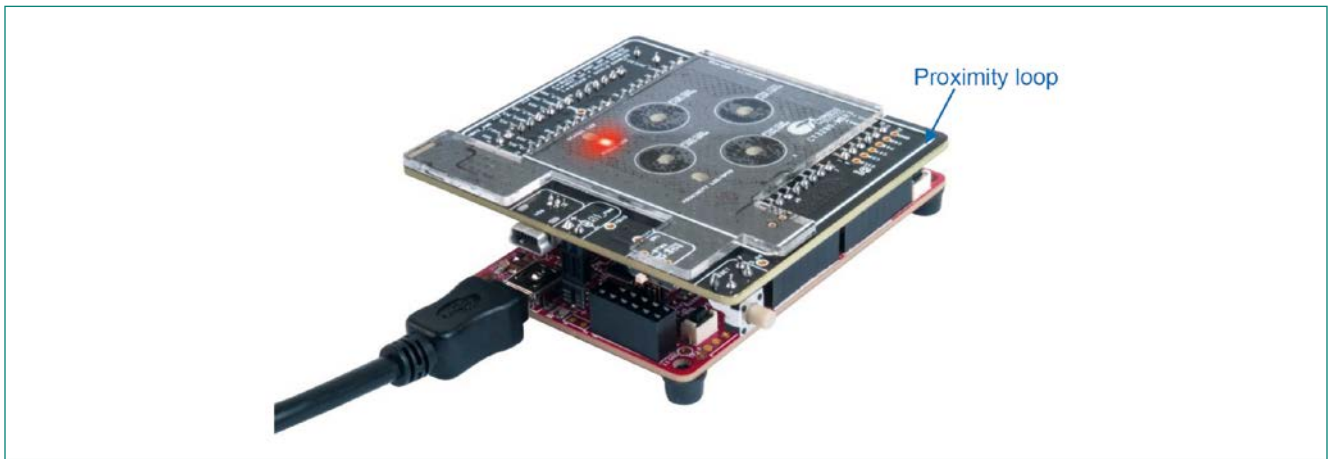

Figure 5-19 MBR3 Kit Mounted on Top of PSoC4 Pioneer Kit
5. Connect the PSoC4 Pioneer Kit to the PC via the USB A to mini-B cable, available as part of the MBR3 Evaluation Kit. The power LED (red) of the MBR3 kit glows. The final connection is shown in Figure 5-19. Once the hardware is set up, the project can be downloaded on to the PSoC4 host